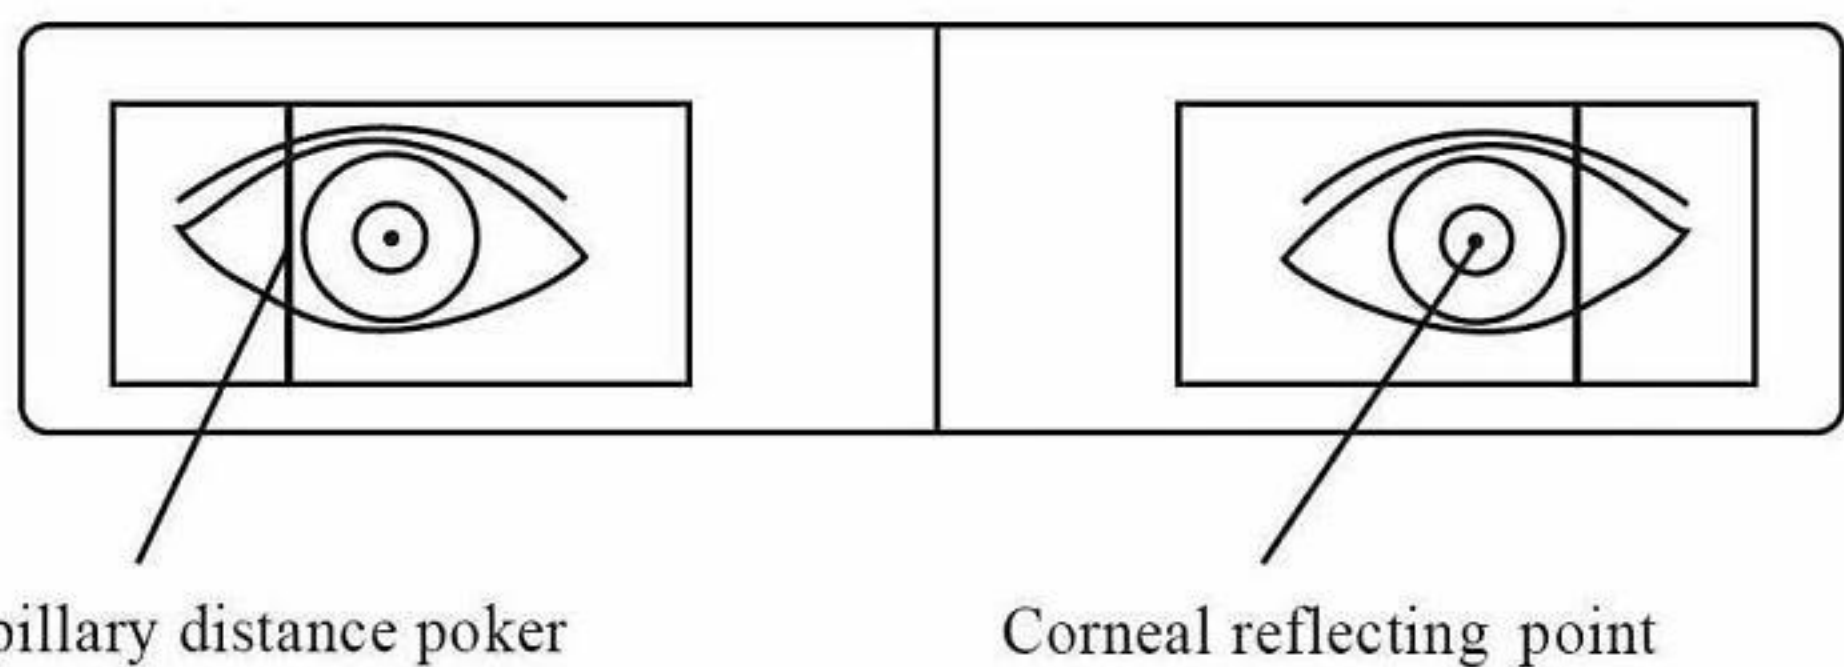

Fig.7a (The sight is what the tester observes through measuring window)
**4.3.4** The tester observes the reflecting light spot on the testee's pupil through measuring window. Side the Left and Right Pupils Measuring Keys, the left and right pupillary distance pointers will coincide with the reflecting light spots of the testee's left and right pupils, respectively(as shown in Fig.7a and Fig.7b ). The data shown in the display window is the measured pupillary distance.